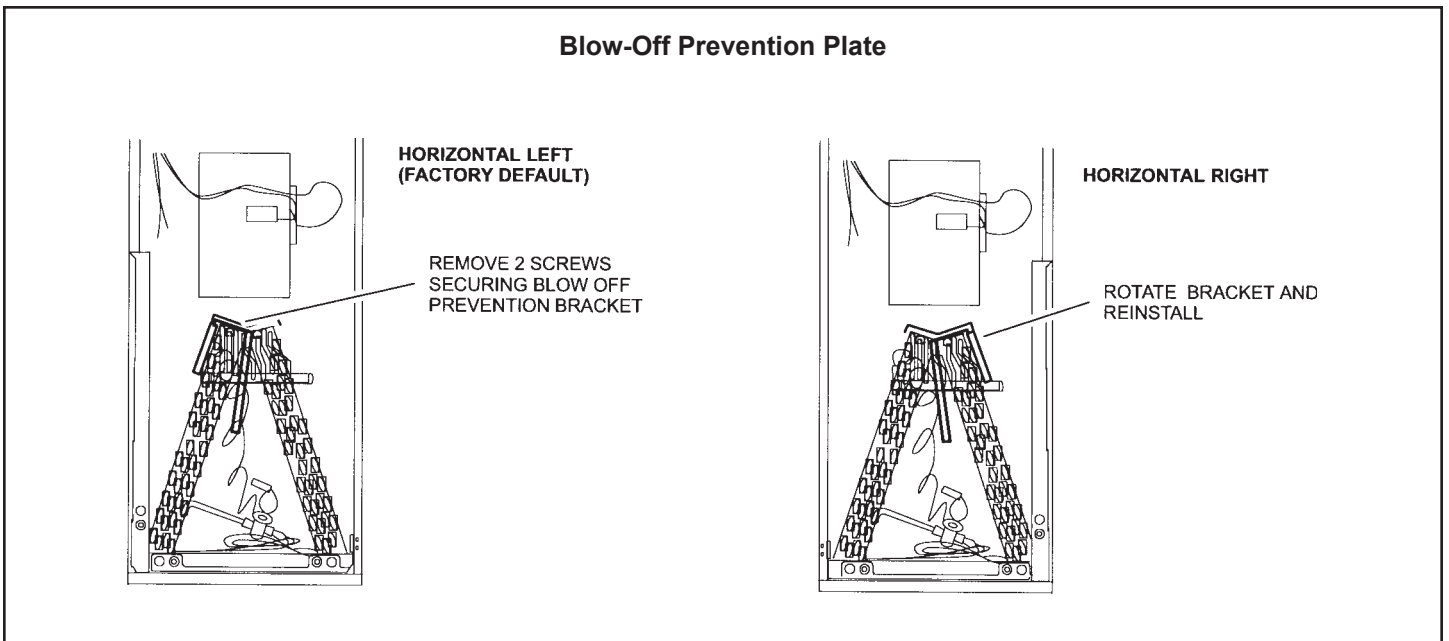

Figure 8
6. Remove two screws securing the blow-off prevention bracket. Rotate the brackets 180° and reinstall using the same screws. See Figure 8.